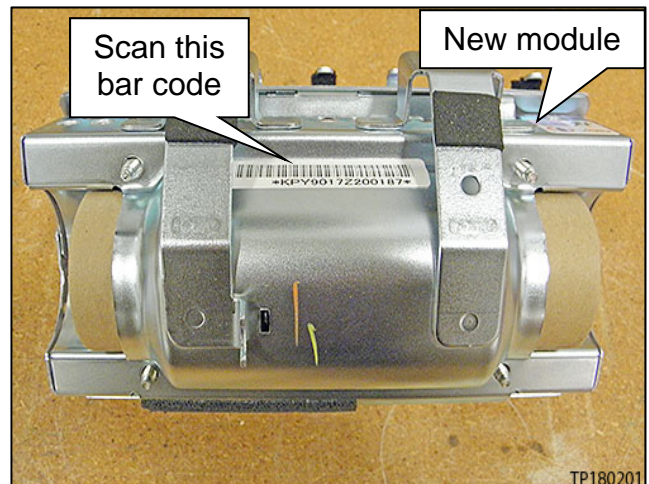
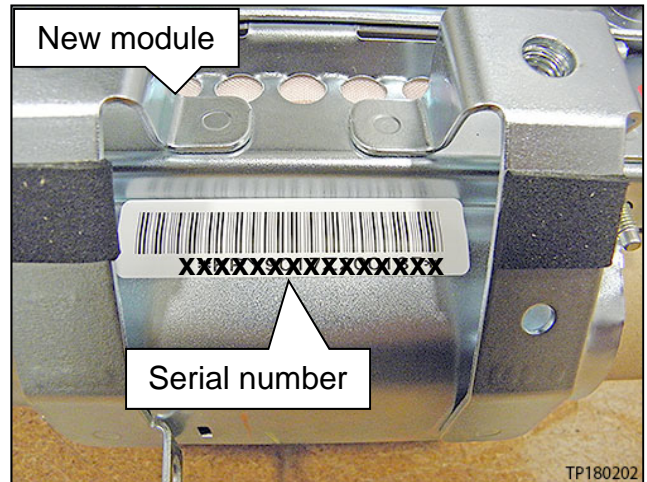

Figure 10
Figure 11
10. Locate the bar code sticker on the new module (Figure 10).
11. Use the quick scan tool to scan the bar code (serial number) on the new module (Figure 10 on page 8, and Figure 11).